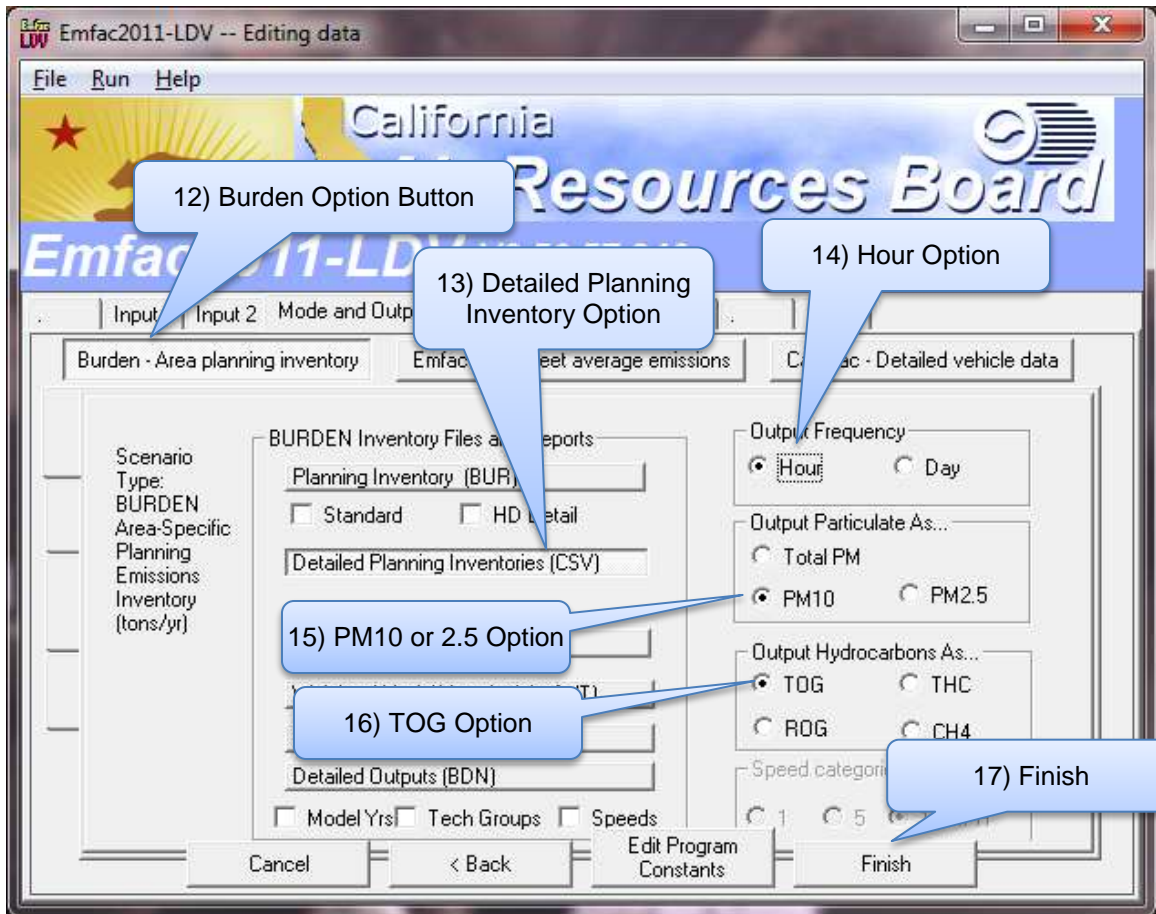

Figure 3-6 EMFAC2011 - Model and Output
11. Click the “Next” button. The screen should change, see Figure 3-6.
The initial “Model and Output” screen will be blank. Once the burden option button, Step 12, is clicked the other options will be available as seen in Figure 3-6.